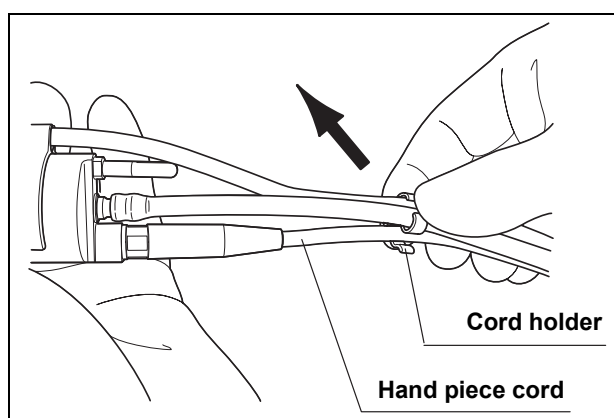

Figure 7.2
1. Detach the hand piece cord from the cord holder of the tube (see Figure 7.2).